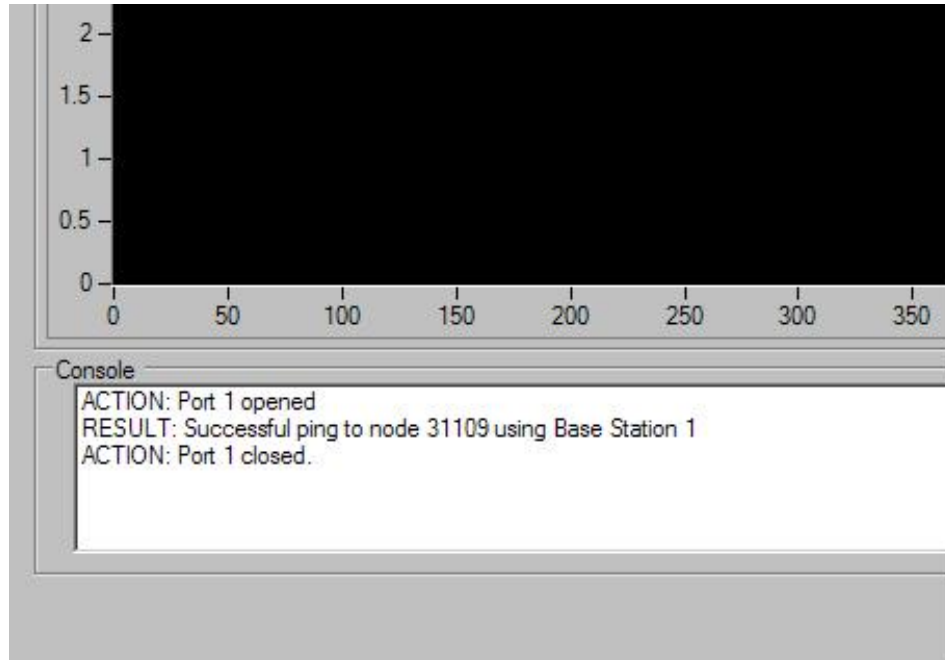

Figure 4
- Look for a successful ping message in the Console frame. See Figure 4.